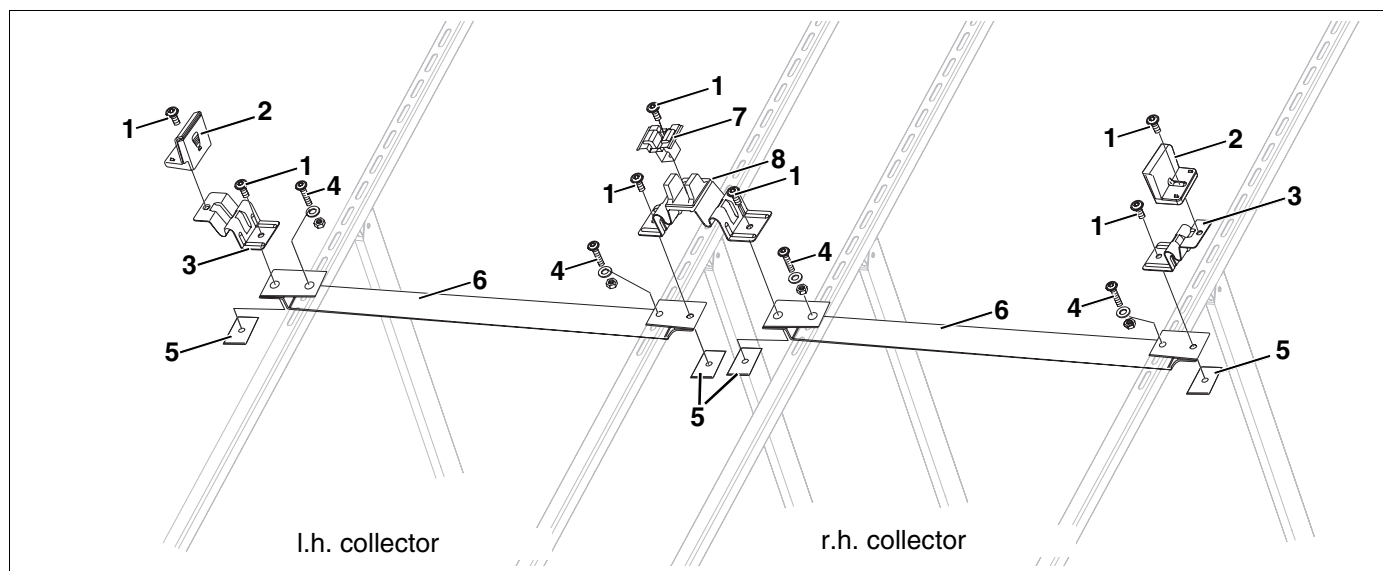

Fig. 3 Collector array for two collectors
4.2.2 Auxiliary holder (accessory) – Fig. 3
Auxiliary holder for the 1st collector in each row (accessory) – Fig. 3
Auxiliary holder for each additional collector (accessory) – Fig. 3